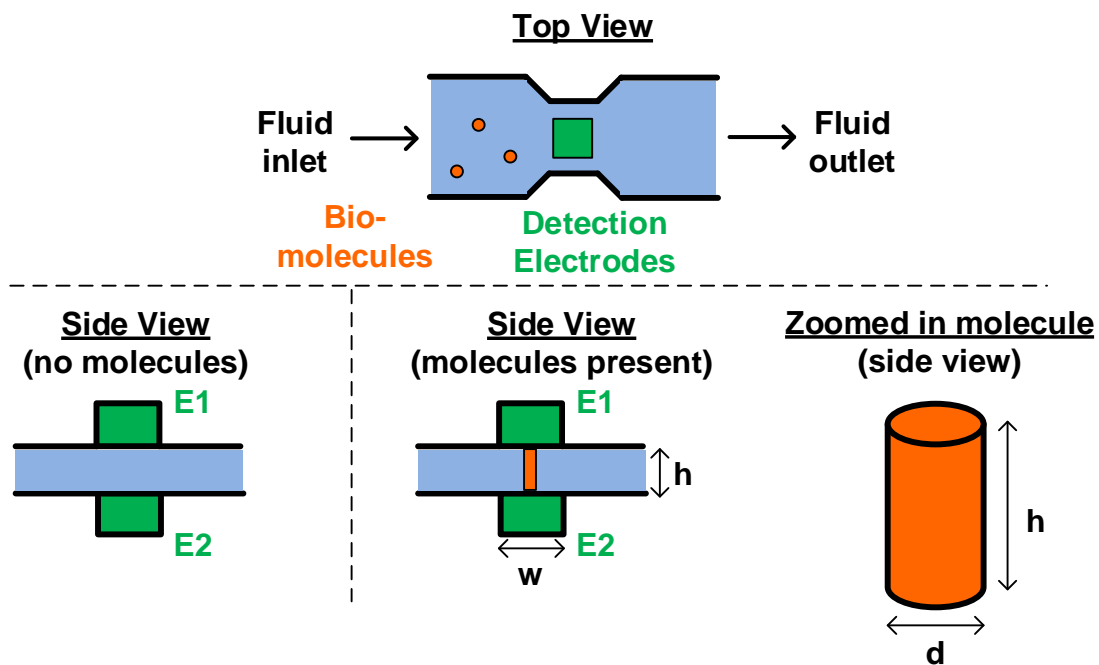

Fig. 1: Cartoon of our simplified bio-molecule detector system.
As shown in Fig. 1 above, the detector works by flowing a liquid that may or may not contain the biomolecules through a region in the device that has electrodes on the top and bottom of the liquid channel. The electrodes (E1/E2 in Fig. 1) are chemically “functionalized” (using e.g. some appropriately designed antibodies) so that if the specific bio-molecule of interest is present in the fluid sample, one or more of the molecules will get physically trapped between the two electrodes
(bottom right of Fig. 1). After all of the fluid has been cleared out of the device (i.e., so that if there are bio-molecules present, there is only air in between the two electrodes E1/E2), we can then figure out whether or not one or more bio-molecules were trapped by measuring the resistance between the two electrodes, the capacitance between the two electrodes, or both.
- (a) Let's first assume that we want to detect the presence of a bio-molecule by measuring resistance. If no bio-molecule is present, what should be the resistance between E1/E2? As shown in Fig. 1, if each bio-molecule is a cylinder with diameter  $d = 10\text{nm}$ , height  $h = 100\text{nm}$ , and has a resistivity  $\rho = 100 \Omega\cdot\text{m}$ , what would be the resistance between E1 and E2 if only a single bio-molecule has been trapped? Note that you can assume that the trapped molecule is exactly vertically oriented when it is trapped – i.e., the top and bottom faces of the molecule are both aligned with surfaces of the electrodes.